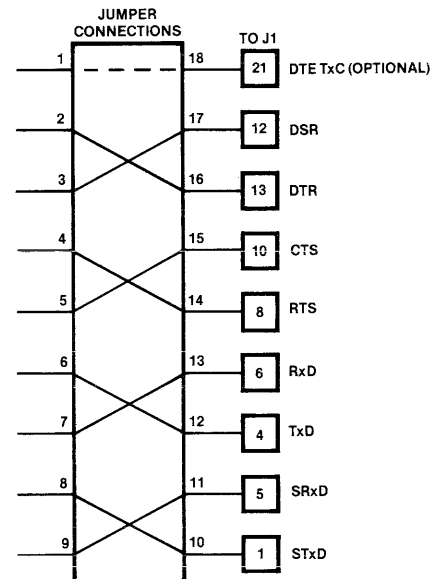

Figure 2-1. Reconfigured DIP Header Jumper Assembly for Data Set Operation.
- Wire a DIP header jumper assembly so that the following signals are reversed: (1) TXD and RXD, (2) RTS and CTS, and (3) DSR and DTR (see figure 2-1). Other signals may need to be reversed depending on the particular application.